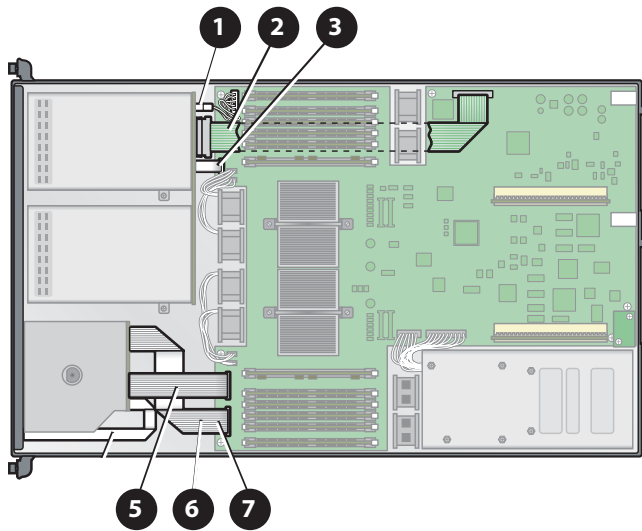

FIGURE 4-26 Sun Fire V20z System Cables
2. **Identify the cable to be replaced (see FIGURE 4-26 for the location).**